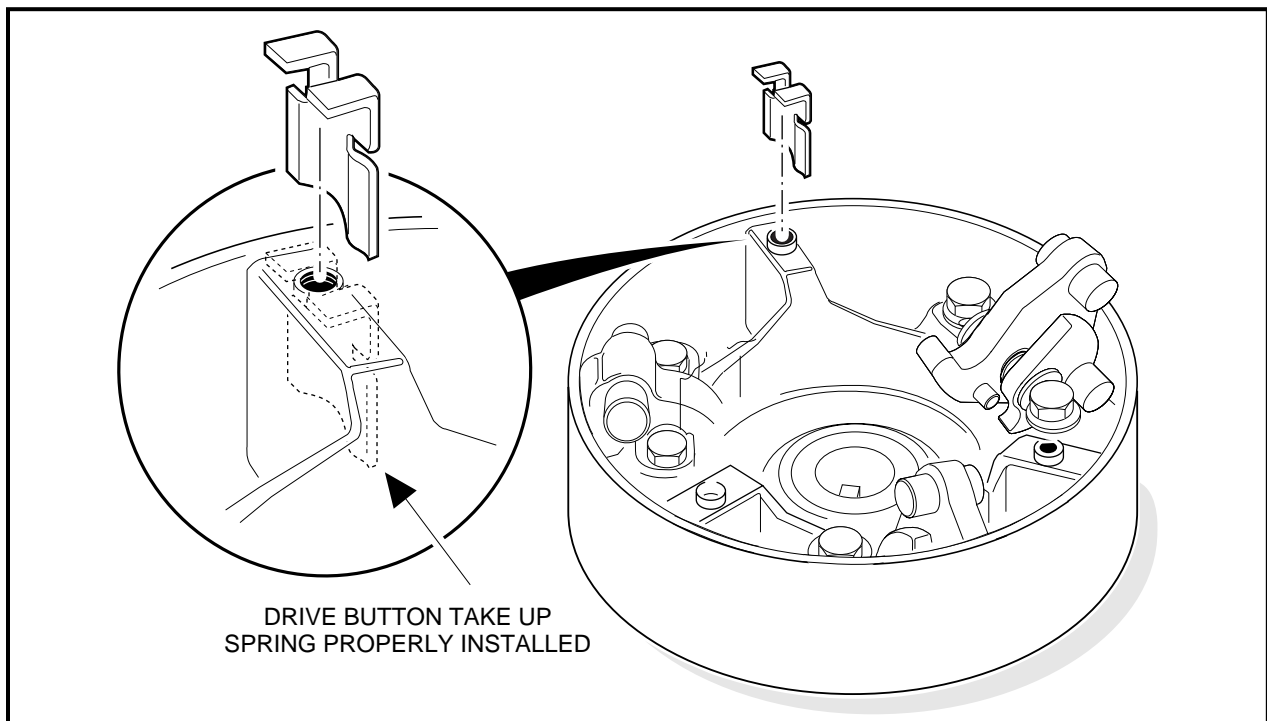

Figure 17-15 Correct Orientation of Drive Button Take-up Spring
13.1. Install spring on **right** side of any one of the three button mounting posts (when looking into the interior of the clutch cover with the rib at the twelve o'clock position) as shown (**Figure 17-15, Page 17-11**).